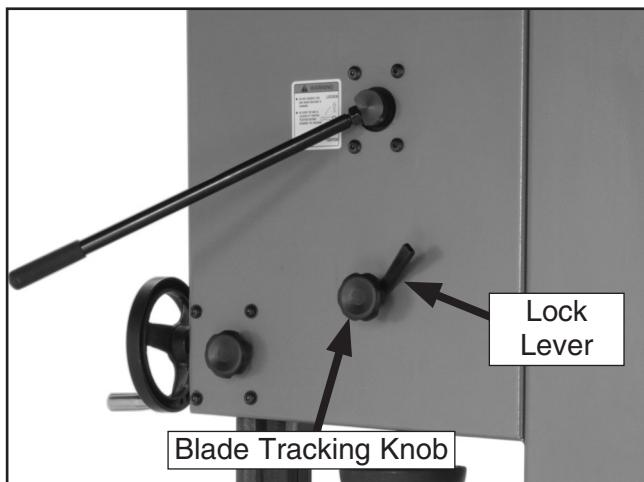

Figure 14. Blade tracking controls.
6. Loosen the lock lever (Figure 14) so that the blade tracking knob can rotate.